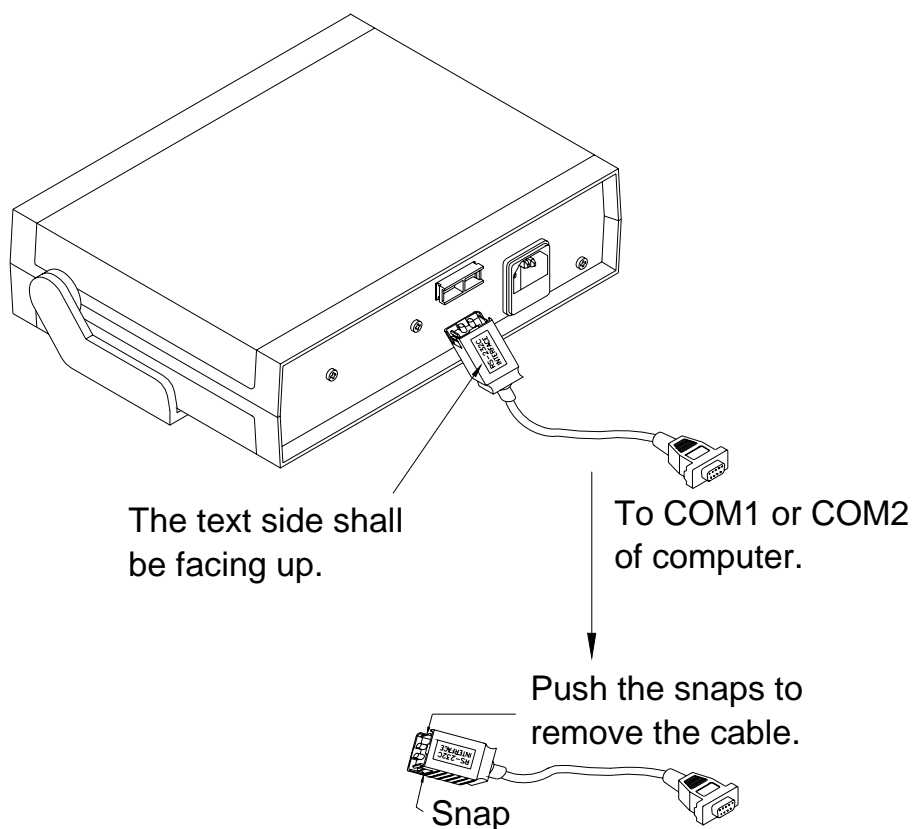

Figure- 27. Cable Connection Of Communication
1. Attache the appropriate end of the interface cable to the meter, with the text side facing up. Connect the 9-pin connector to the communications port of a personal computer. See the **Figure-27**.